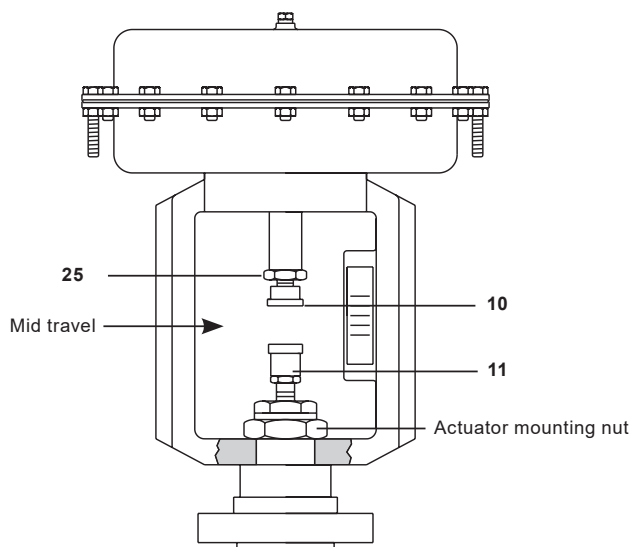

Fig. 4
3.2 Fitting the PN9100E, PN9200E or PN9300E actuator to a valve (Figures 4 and 5):